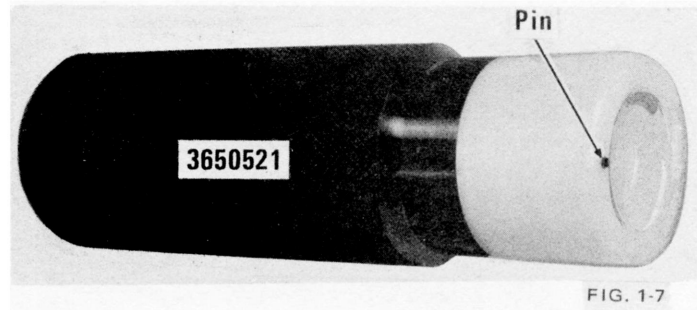
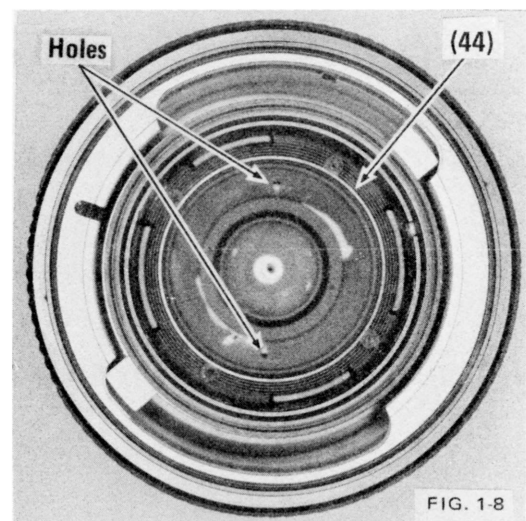

FIG. 1-7
FIG. 1-8
The third lens group is threaded into slide housing (44). The pin on the rim of Tool No. 3650522 (Fig. 1-7) fits into one of the two holes in the third lens group housing. Fig. 1-8.